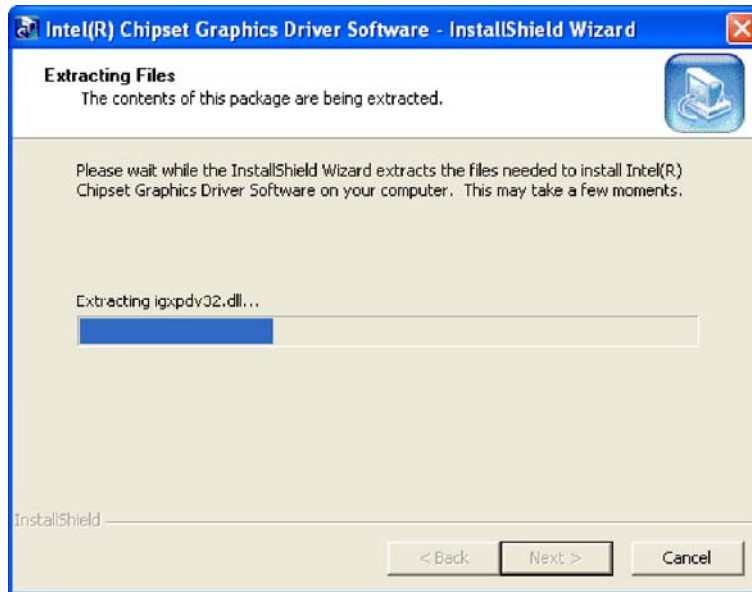

Figure 7-10: VGA Driver Setup Files Extracted
Step 24: The installation files are extracted. See Figure 7-10.